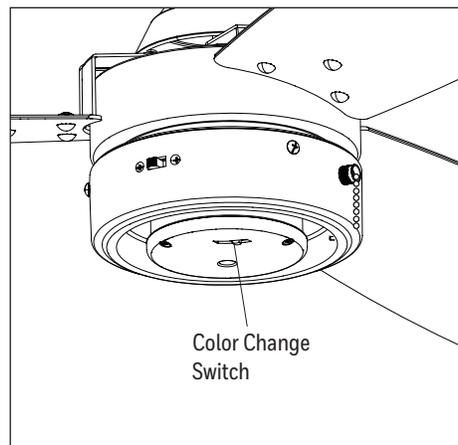

Figure 5.8
8. The LED has five color settings that range from 2700K (soft white) to 6500K (cool white). The factory setting for the LED is 2700K. If desired, adjust the LED color switch to change the color temperature (Figure 5.8).